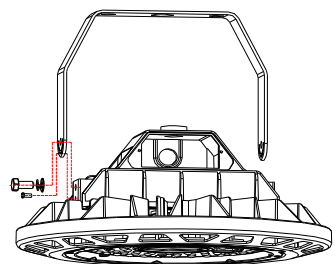

FIG. 4
2. Install Trunnion Mount (Sold Separately) on fixture. See Fig. 4.